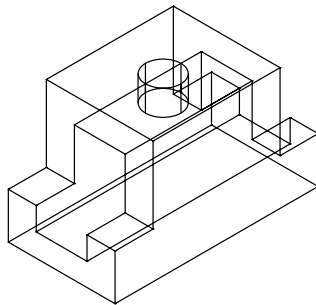

Figure 3-53 Model before subtraction
22. Choose the **Cylinder** tool from **Home > Modeling > Solid Primitives** drop-down and follow the command sequence given next to create the cylinder, as shown in Figure 3-53.